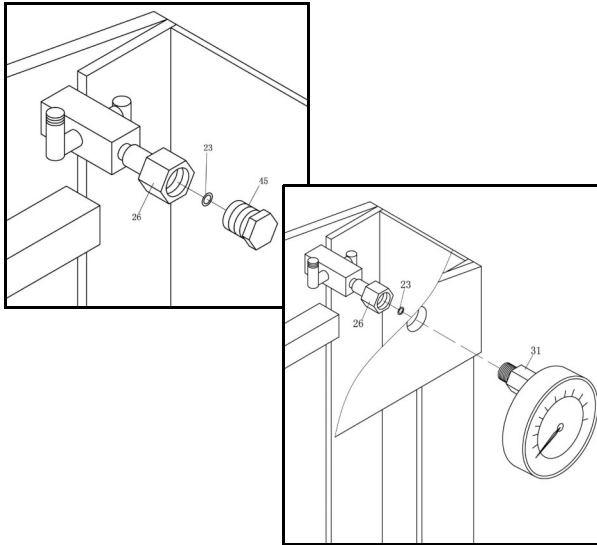

Fig. 7: Installing the pressure gauge
Step 2: Securely fasten the pressure gauge and seal to the distributor. The connection must not leak to prevent escaping oil (see Fig. 7).